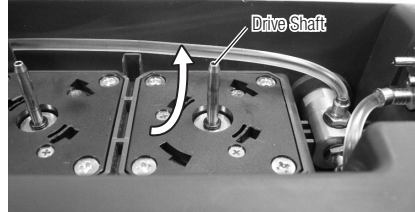

Fig.37
- Wipe dirt and water off the Drive Shaft from bottom up. (Fig.37)